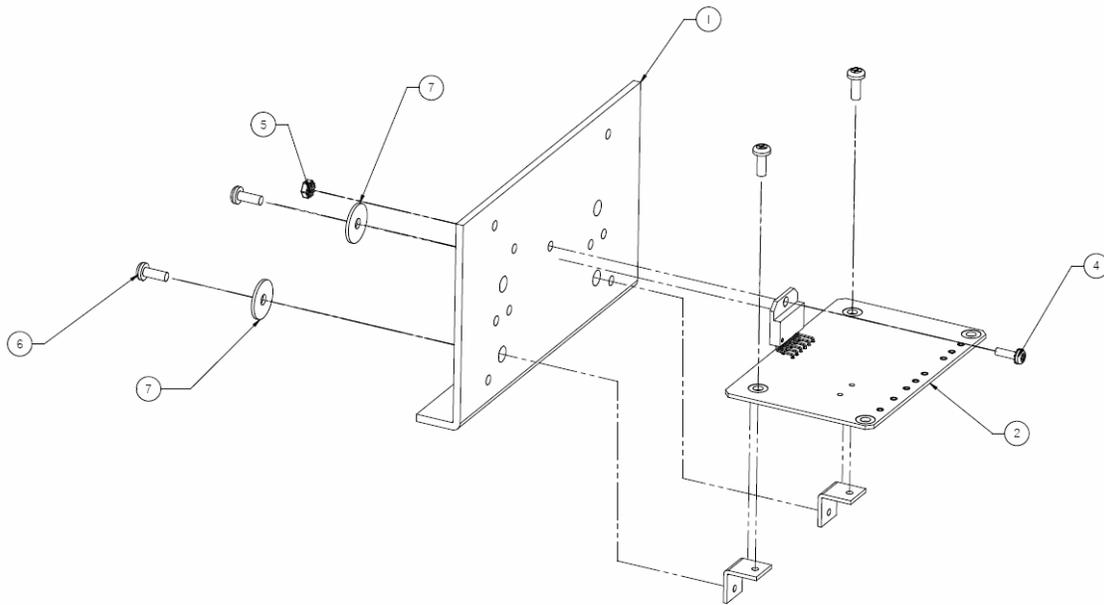

Figure 19-Mounting assembled PCB to heat sink
- b. 4-40 screw and nut with captive lock-washer (callouts 4 and 5 in Figure 19).
- c. Qty 2 of #6 fender washers, and Qty 2 of #6-32x3/8" Phillips head screws with built-in lock washers (callouts 6 and 7 in Figure 19).